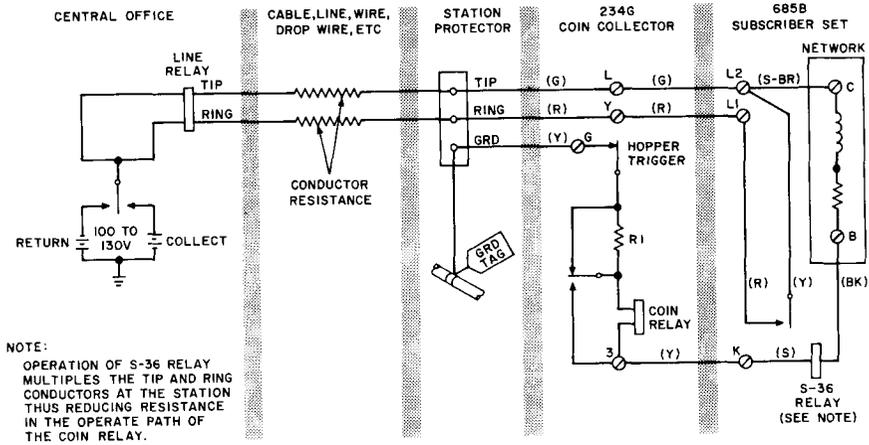

Fig. 5 — Connections and Operate Path of S-36 Relay (685B Subscriber Set)
- Installations with excessive loop resistance may require the use of a 685B subscriber set (S-36 relay). When required a 233- or 234-type coin collector must be used. Refer to Table C for use of 685B subscriber set and Fig. 5 for connections and operate path of the S-36 relay. For complete connection information see Section 506-215-404.